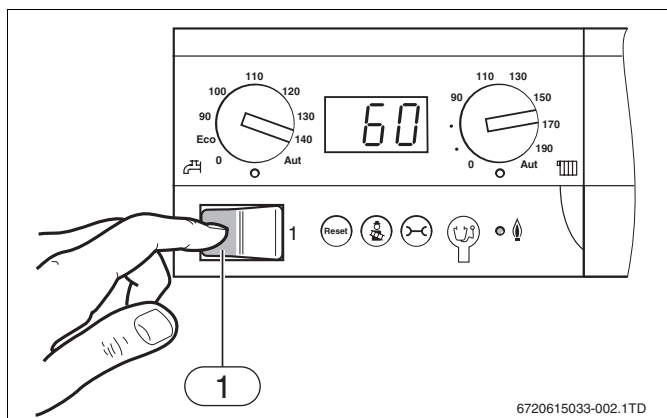

Fig. 1
- ▶ Switch off the heating system using the main switch (→ fig. 1).